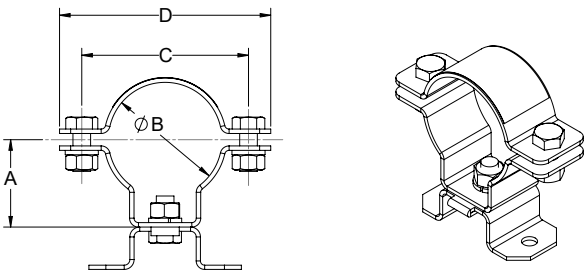

Figure 5. Pole Mount Details
- 2. Verify that the clamp internal diameter is consistent with the diameter of the pole prior to installation. Clamps are available in 1.65 (42mm), 2.00 (51mm) and 2.36 (60mm) sizes (see Figure 5).